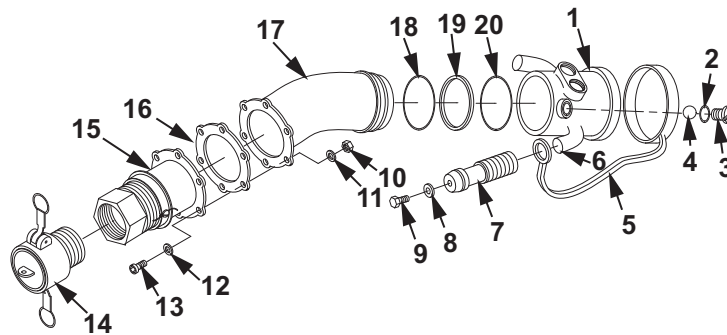

Figure 2. D1 Nozzle Assembly.
If it was necessary to replace dust cap (Figure 2, Item 5), perform steps 1–4.
1. Install dust cap (Figure 2, Item 5) on fuel nozzle handle (Figure 2, Item 6).
2. Position grip handle (Figure 2, Item 7) on fuel nozzle handle (Figure 2, Item 6).
3. Position washer (Figure 2, Item 8) and screw (Figure 2, Item 9) on grip handle (Figure 2, Item 6).
4. Using a torque wrench, torque screw (Figure 2, Item 9) to 6.5 in. lb (0.73 N•m).
5. Lightly lubricate new O-ring (Figure 2, Item 20) with petrolatum and install in internal groove of the fuel nozzle body (Figure 2, Item 1).
6. Install wear ring (Figure 2, Item 18) in inside groove of inlet elbow (Figure 2, Item 17).
7. Install new seal (Figure 2, Item 19) on inlet elbow (Figure 2, Item 17).
8. Install inlet elbow (Figure 2, Item 17) into fuel nozzle body (Figure 2, Item 1).
Ensure all 39 ball bearings (Figure 2, Item 4) are accounted for before assembly.
9. Hold fuel nozzle body (Figure 2, Item 1) over cleaning cloth with screw hole up and insert ball bearings (Figure 2, Item 4) into hole.
10. Lightly lubricate new O-ring (Figure 2, Item 2) with petrolatum and install on screw (Figure 2, Item 3).
11. Install screw (Figure 2, Item 3) into fuel nozzle body (Figure 2, Item 1).
12. Using torque wrench, torque screw (Figure 2, Item 3) to 9.5 in. lb (1.07 N•m).
13. Install new gasket (Figure 2, Item 16) on inlet elbow (Figure 2, Item 17).
14. Install quick disconnect coupling half adapter (Figure 2, Item 15) on inlet elbow (Figure 2, Item 17).
15. Install six new locknuts (Figure 2, Item 10), washers (Figure 2, Item 11), screws (Figure 2, Item 13) and washers (Figure 2, Item 12) to attach quick disconnect coupling half adapter (Figure 2, Item 15) to inlet elbow (Figure 2, Item 17).
16. Wrap threads of quick disconnect coupling half adapter (Figure 2, Item 15) with teflon tape.
17. Using pipe wrench, install quick disconnect coupling half adapter (Figure 2, Item 15) by turning the quick disconnect coupling half (Figure 2, Item 14) clockwise. Tighten quick disconnect coupling half (Figure 2, Item 14).